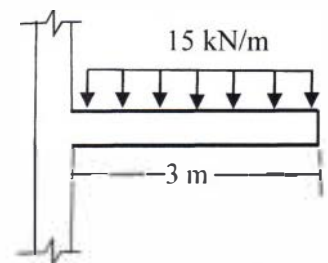

Figure 3: Cantilever RC slab
- b) A reinforced concrete cantilever slab strip is subjected to floor load as shown in **Figure 3**. The maximum allowable deflection of the slab is 15 mm. Analyze the slab using Virtual Work Method to get minimum required thickness to control the deflection. The width of the slab strip is 1000 mm [Given: Modulus of elasticity of concrete is 30,000 N/mm²]. [3 marks]